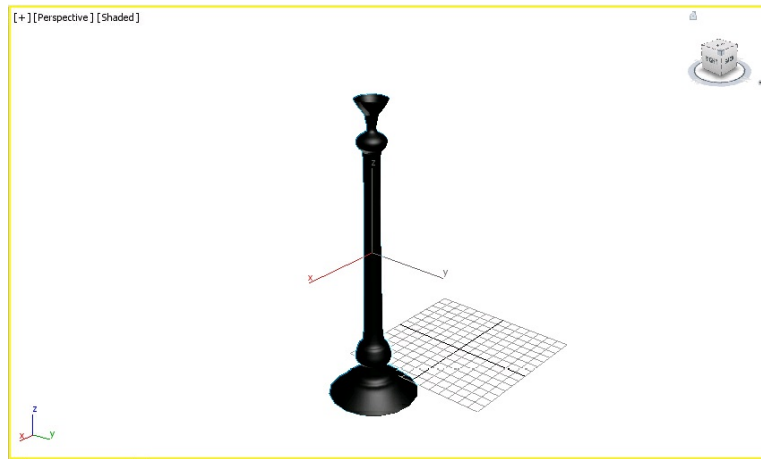

Figure 6-59 *The pole displayed in the Perspective viewport*
8. In the **Parameters** rollout, set **0.5** in the **Inner Amount** spinner; *pole* is displayed in the Perspective viewport, as shown in Figure 6-59.